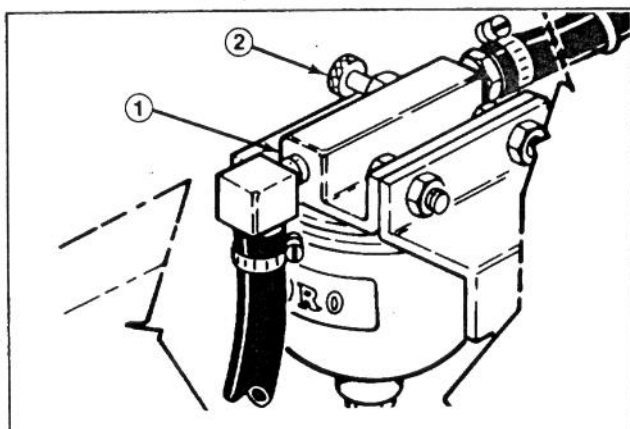

Figure 32
2. Loosen air bleed screw on top of fuel filter/water separator (Fig. 32).